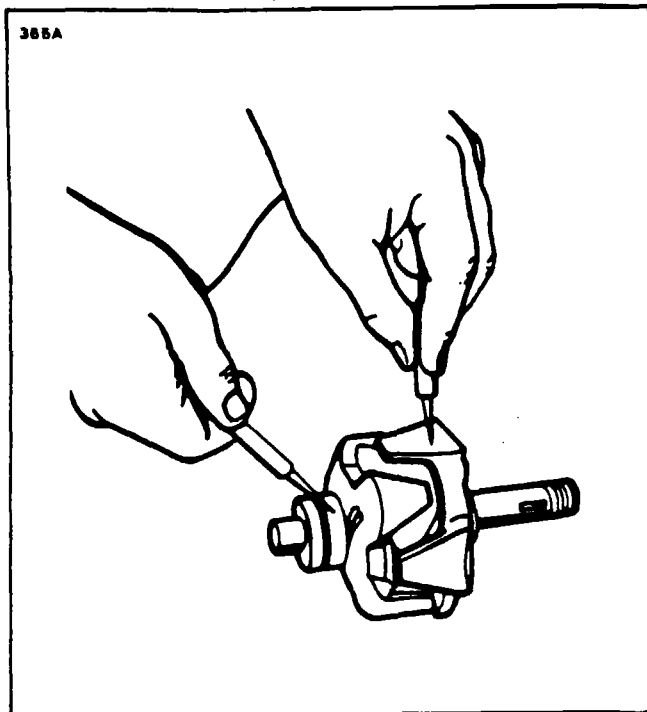
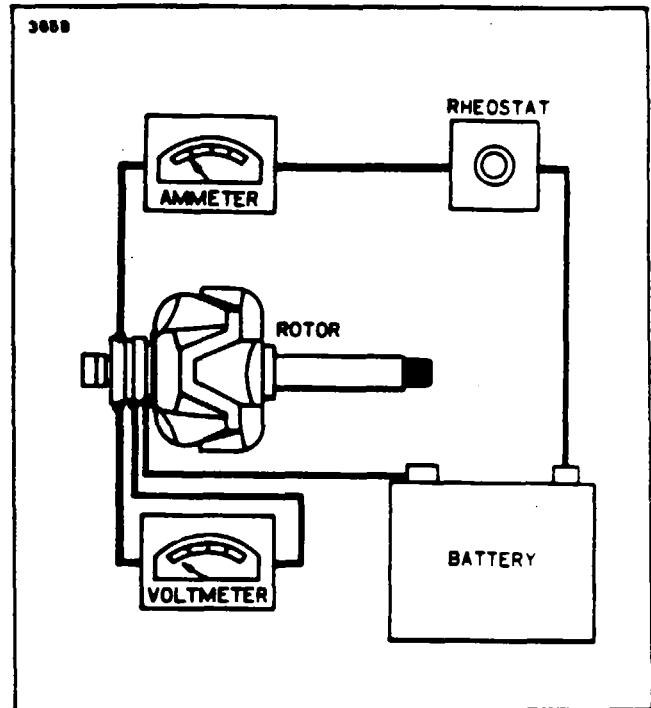

Figure 24-7. Testing Rotor for Ground
Figure 24-8. Testing Rotor for Shorts
1. Rotor: The rotor should be tested for grounded or shorted windings. The ground test can be made with test probes, connected in series with a 110-volt test lamp, an ohmmeter or any type of continuity tester. (Refer to Figure 24-7.) There must not be any continuity between the slip rings and the rotor shaft or poles. To test for shorted turns in the rotor winding, connect a voltmeter, ammeter and rheostat as shown in Figure 24-8, or use an ohmmeter. Rotor current draw and resistance are listed in the Alternator Service Test Specifications paragraph. Excessive current draw or a low ohmmeter reading indicates shorted windings. No current draw or an infinite ohmmeter reading would indicate an open winding.